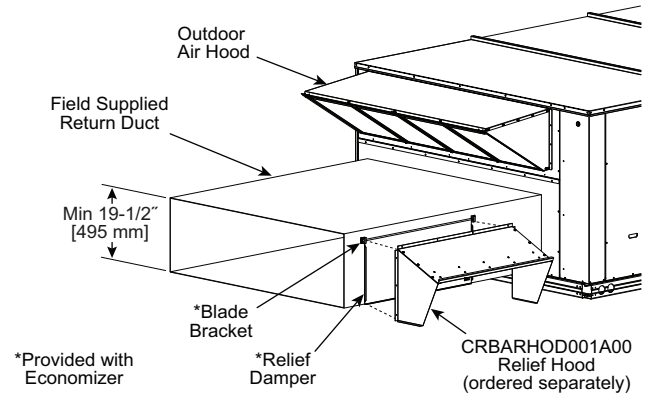

Fig. 35 – Installing CRBARHOD001A00 Over Relief Damper
4. Using the blade brackets, install the relief damper onto the side of the return duct (see Fig. 35). The two brackets and relief damper are provided with the economizer.
Caulk the backside of the mating flanges to ensure a watertight seal. Install the CRBARHOD001A00 over the relief damper and screw to the return duct, as illustrated in Fig. 35.